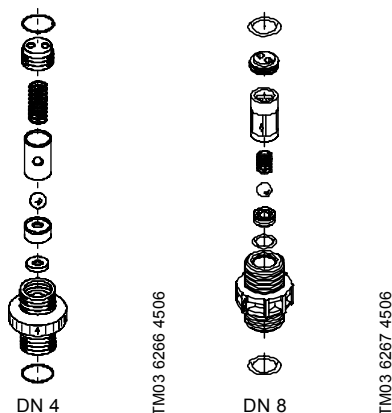

Fig. 70 Spring-loaded DN 4 valve / spring-loaded DN 8 valve
- Dismantle the inner parts (as shown in fig. 70).